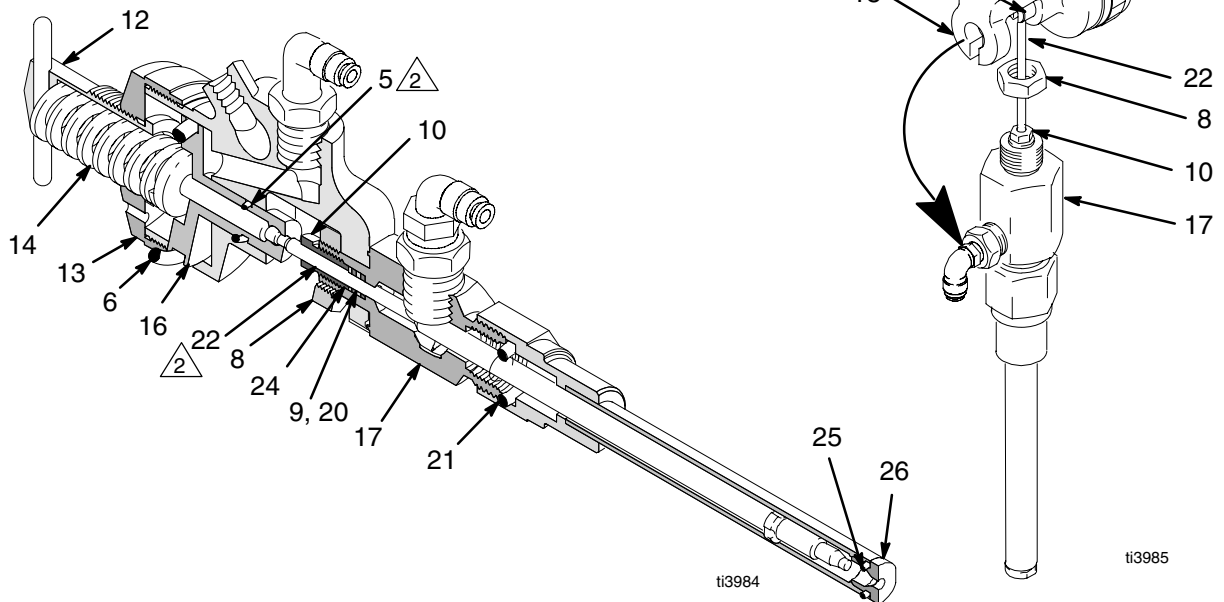

Fig. 3
2. After lubrication, cover the exposed portions of the needle and piston with a piece of plastic to prevent fluid buildup on these parts. Any buildup could damage the valve packing (9 or 20). See Fig. 3 on page 7.
4. To decrease needle travel, turn the adjusting screw (12) clockwise; to increase, turn counterclockwise.
2. Screw the locknut (8) off the outlet housing (17). See Fig. 3.
3. Align the slot in the air piston (16) with the slot in the valve housing (18).
4. Swing the outlet housing (17) out of the valve housing (18) and slide the needle (22) out of the socket in the air piston (16).
5. Unscrew the packing nut (10).
6. Remove the packings (9 and 20), gland (24), and needle (22).
7. Unscrew the seat (23) out of the outlet housing (17). See Fig. 3. Handle the needle and seat carefully and inspect them closely for wear or damage.
8. Reassemble the valve using new parts as necessary. Torque the seat (23) to 23–27 ft-lb (31–37 N•m).
9. Soak a new leather packing (20) in light, compatible oil before installing it.